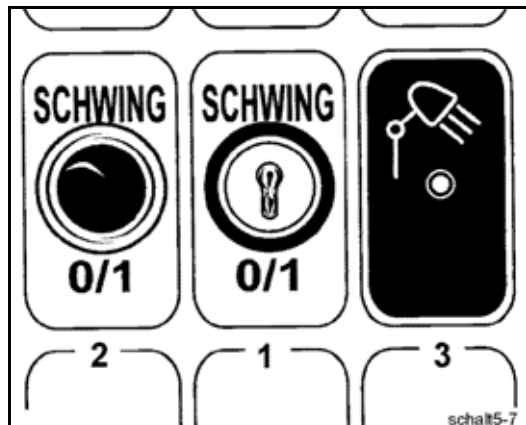

Fig. 289 Switch in the driver's cab
- Switch off the power supply of the machine control with the key-operated switch (1) **(Fig. 289)** in the driver's cab.
- Do not forget, if necessary, to switch off the side floodlights with the switch (3).